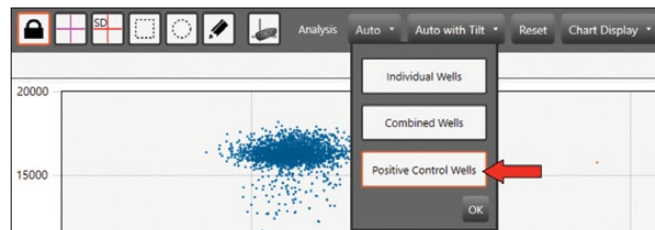

Fig. 5. Positive control-based autothresholding.
- Next, navigate to the 2D Amplitude tab and select all wells on the plate. Apply automatic thresholding by selecting Positive Control Wells (see Figure 5).